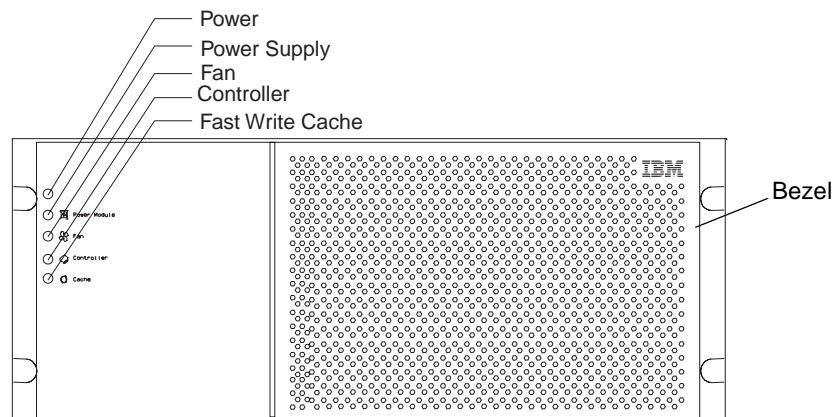

Figure 11. LEDs on Front Covers
You can use the following chart, along with Figure 7 on page 9 and Figure 11 on page 21 to identify possible causes for controller problems.
1. Look at the LEDs on the front cover and answer the following questions (Figure 11 on page 21).